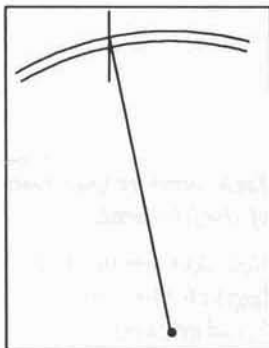

Figure 2
Enter the **Obj Snap** menu (X), select *Center* (F5) to turn it off, and select *End* (F2) and *Intsect* (F7). Exit the **Obj Snap** menu. Draw a line from the center of the arc to the (intended) center point of the door to be placed. Do this by snapping first to the snap point inserted in the previous step and then to the intersection point of the "center" line and the upper (outer) wall line. Figure 2 illustrates the result.